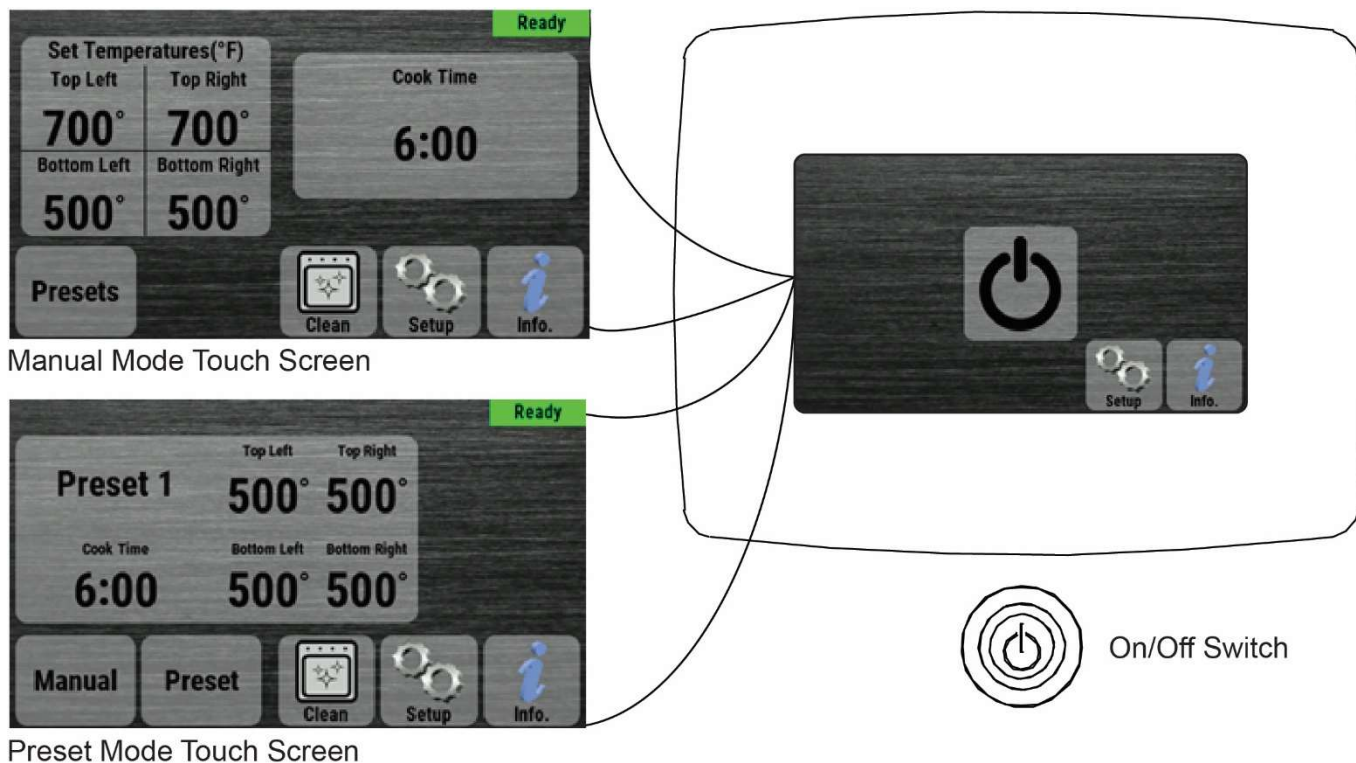

Figure 23. Control Panel
2. Turn the on/off switch on. The screen lights up and first displays the software revisions levels for the User Interface (UI), Input/Output (I/O Board), and Motor Control (MC) software. Then the screen shows a large on/off button, along with Setup and Info.
3. Touch the large onscreen on/off button. The screen shows either the Manual Mode touch screen or the Preset Mode touch screen, depending on the mode the oven was in when last turned off. See Figure 23. The screen will show “Not Ready” at the upper right until the oven heats to the displayed temperatures and the conveyor reaches the displayed speed.